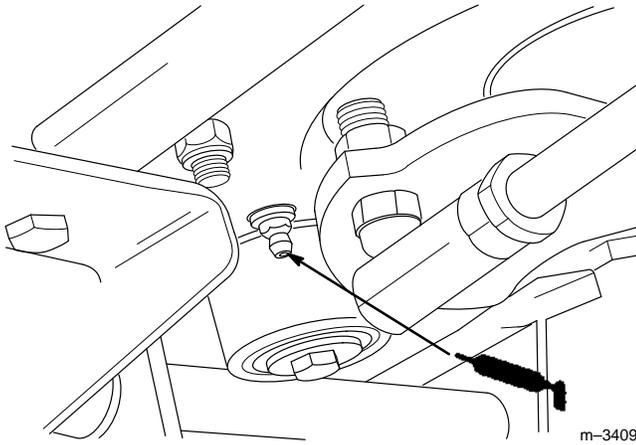

Figure 36
7. Put one pump of grease into the steering housing (from underneath the frame) (Fig. 36) every 50 hours.